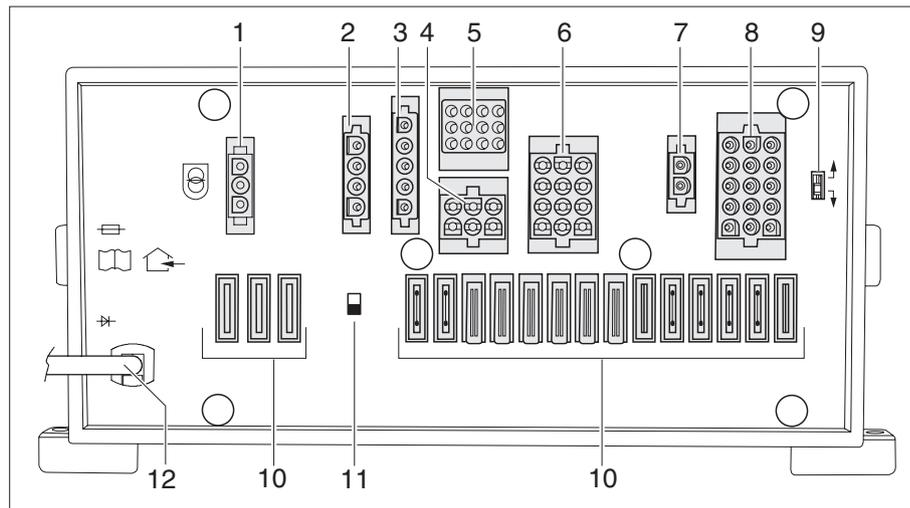

Fig. 69 Transformer/rectifier (EBL 31)
- The battery cut-off switch (Fig. 69,11) disconnects all the appliances that are connected to the transformer/rectifier from the 12 V network.
The battery cut-off switch (Fig. 69,11) switches off all the living area 12 V appliances, including even the safety/drainage valve. This prevents the living area battery from slowly discharging if the vehicle is not used for a longer period of time (e.g. temporary lay-up).
- ▶ Push the battery cut-off switch (Fig. 69,11) upwards: Battery on.
- ▶ Push the battery cut-off switch (Fig. 69,11) downwards: Battery off.
If the battery selector switch (Fig. 69,9) is set incorrectly, oxyhydrogen gas (exploding gas) can form. Danger of explosion!
At the battery selector switch (Fig. 69,9), the charger module in the transformer/rectifier can be set to the type of living area battery installed in the vehicle ("lead-gel", "lead-acid" or AGM).